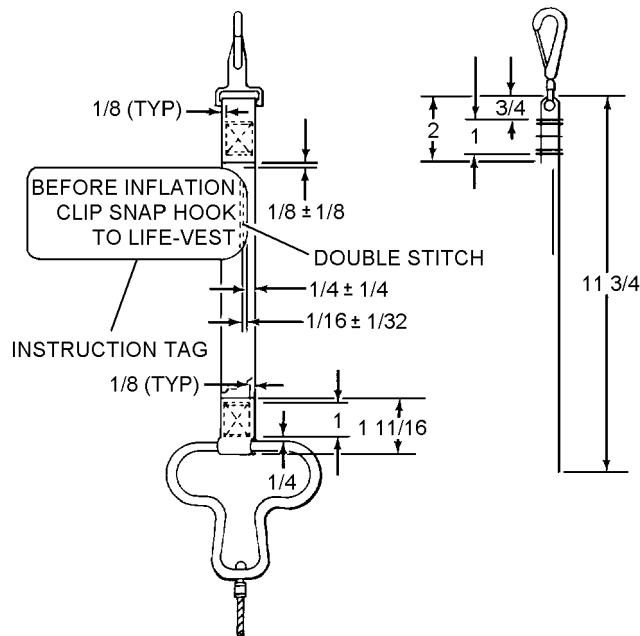

Figure 11-22. Survivor Attachment Strap
1. Using dimensions shown in figure 11-22, pass one end of nylon webbing through snaphook, fold over 2 inches; then sew a 2-inch crossboxstitch with size E nylon thread.
2. Using dimensions shown in figure 11-22, fold opposite end of nylon webbing around ripcord handle approximately 1 11/16 inches; then cross boxstitches with size E nylon thread.
3. Position instruction tag below crossboxstitch on snaphook end. Double stitch instruction tag to webbing with size E nylon thread. See figure 11-22.